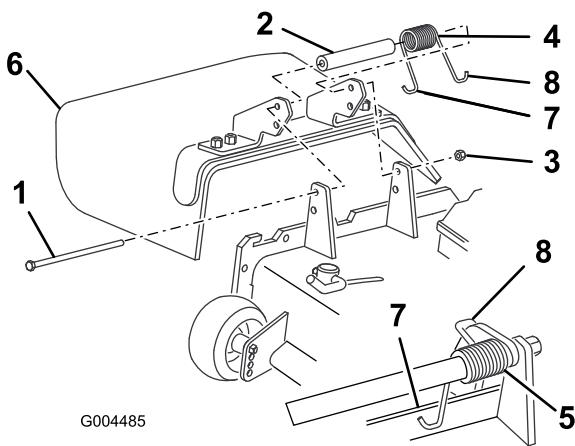

Figure 79
- Remove the locknut, bolt, spring and spacer holding the deflector to the pivot brackets (Figure 79). Remove damaged or worn grass deflector.
3. Place the spacer and spring between the replacement grass deflector brackets (Figure 79). Place the left hand J hook end of the spring behind the deck edge.
Note: Make sure the left hand J hook end of the spring is installed behind the deck edge before installing the bolt as shown in Figure 79.
4. Install the bolt and nut. Place the right hand J hook end of the spring around the grass deflector (Figure 79).